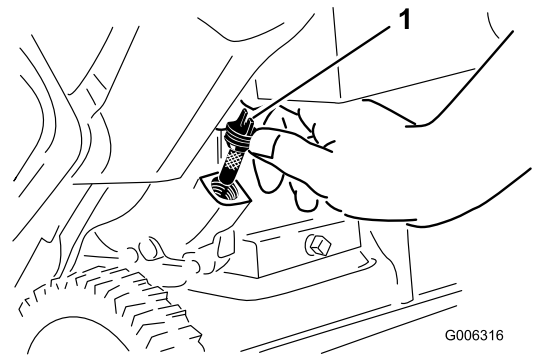

Figure 11
2. Clean around the oil-fill cap (Figure 11).